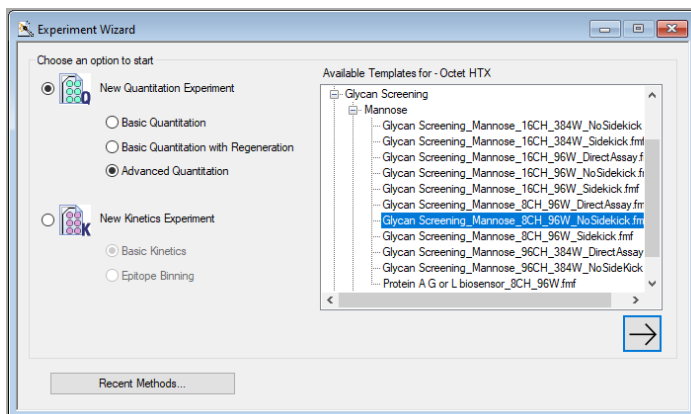

Figure 7: Experimental Wizard window from Octet® BLI Discovery software version 12.2 or higher
2. Launch Octet® BLI Discovery Software and choose the Advanced Quantitation option in the Experiment Wizard. Use the advanced quantitation template "Glycan Screening_Mannose_8CH_96W_NoSidekick.fmf" for this format (Figures 7 and 8).